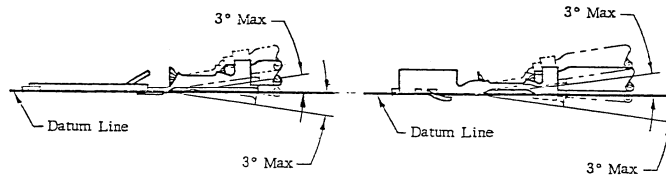

Figure 2
- (1) The contact, including the cutoff tab and burr shall not be bent above or below the datum line more than the amount shown in Figure 2.